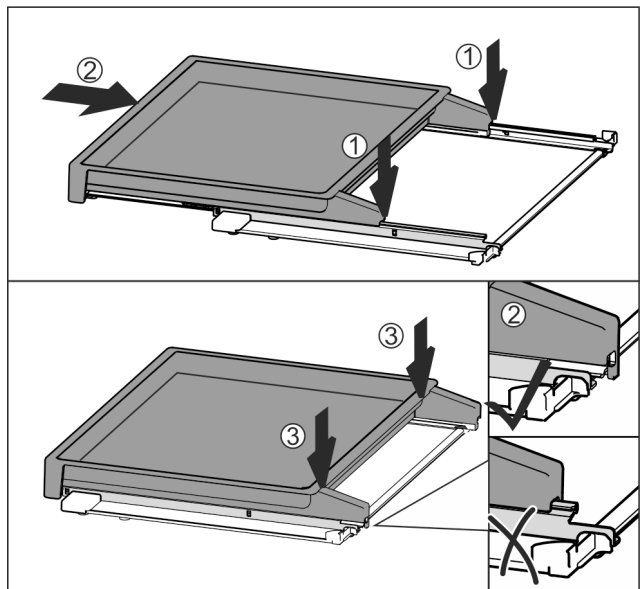

Fig. 110
- ▶ Place centrally on the rails Fig. 110 (1).
- ▶ Slide the pull-out board all the way in Fig. 110 (2).
- ▶ Press down at the back until it clicks into place Fig. 110 (3).